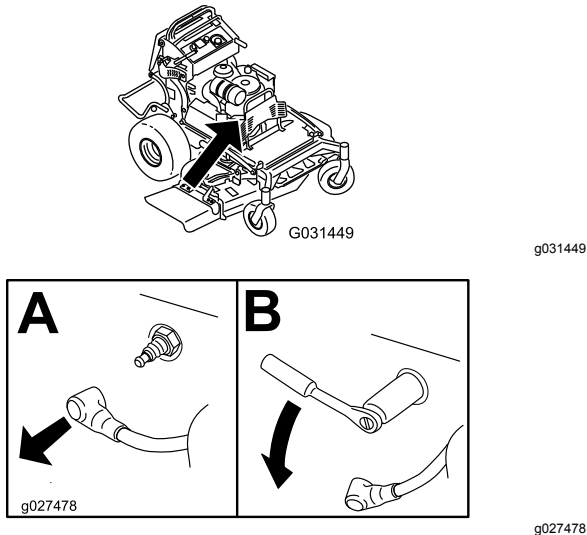

Figure 42
3. Remove the spark plugs as shown in Figure 42.